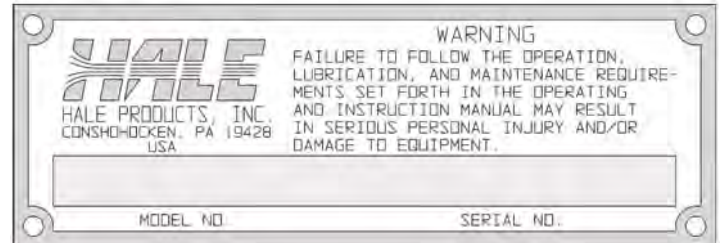

Figure 6-1: Sample, Serial Nameplate
- ☐ HP model and serial numbers - see Figure 6-1: "Sample, Serial Nameplate" on page 59. For you convenience, fill in the information on the nameplate above.